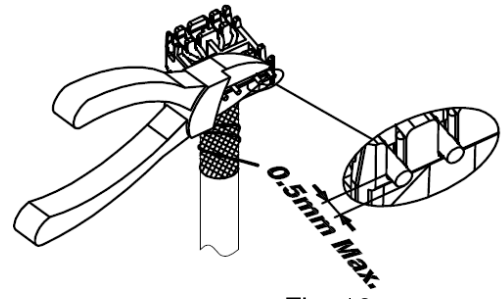

Fig. 10
- 3) Cut the excess wires off. The tips of the wires should protrude no more than 0,5mm (Fig. 10)